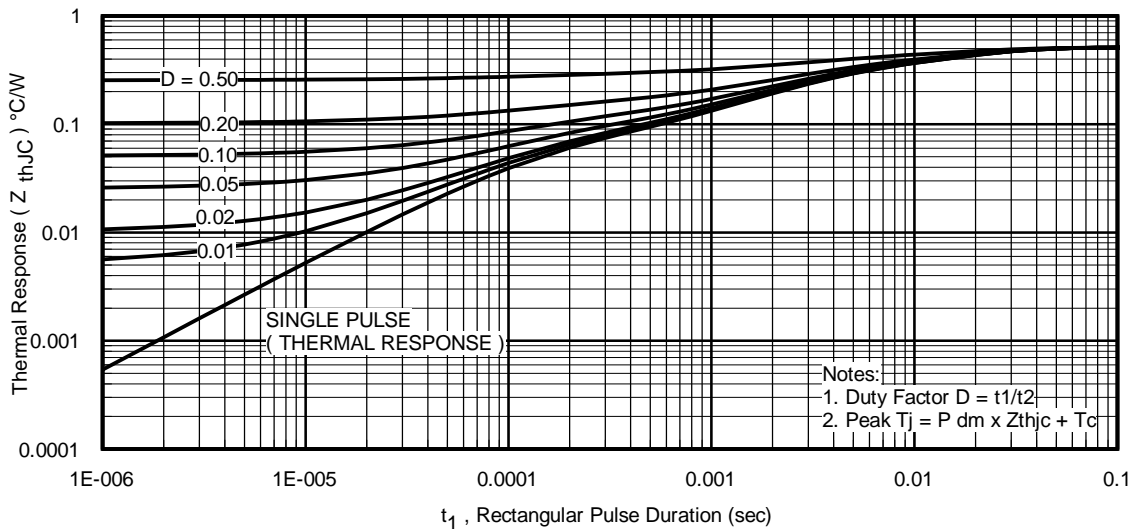

Fig 14. Maximum Effective Transient Thermal Impedance, Junction-to-Case
7. ΔT = Allowable rise in junction temperature, not to exceed T_{jmax} (assumed as $25^{\circ}C$ in Figure 14, 15).
$Z_{thJC}(D, t_{av})$ = Transient thermal resistance, see Figures 14)